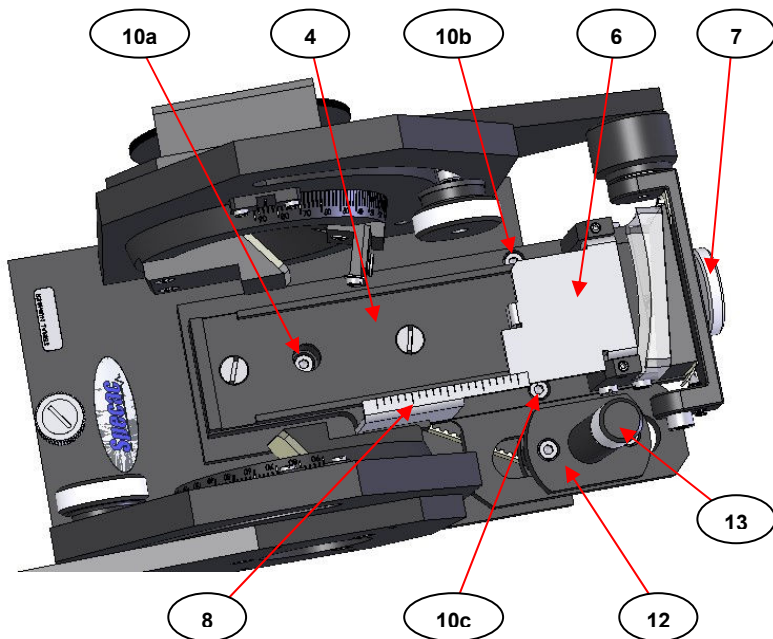

Fig 6. Liquid Sampling Platform Assembly as Fitted in the Monolayer Grazing Angle Accessory
To remove the liquid sampling platform assembly (4) for use of the solid sampling platform assembly (11), the three screws (10a, 10b and 10c) are undone (screwed anticlockwise) using the 2.5mm Allen key supplied. (See **Fig 6.**) When the liquid sampling platform assembly (4) has been removed, make sure that the fixing screws (10a, 10b and 10c) are kept safely for re-use when necessary.
Note: The PTFE trough (3) **must** be removed from the liquid sampling platform (4) to gain access to the screw (10a) for removal or fitting of the liquid sampling platform assembly (4). The two screws (10b) and (10c) are accessible even with the trough (3) fitted in position. (See Fig 6.)